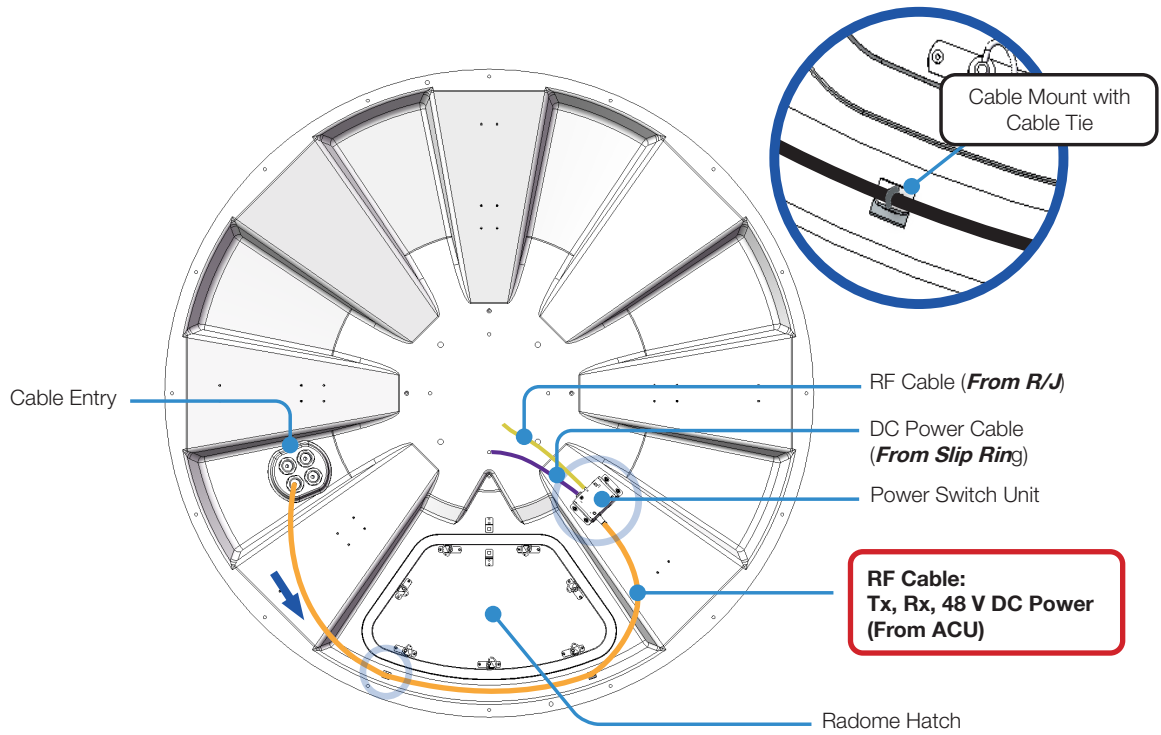

Figure 15: Cable Connection Inside Radome
4. Terminate the RF cables with N (M) connectors inside the radome. Intellian recommends using genuine cable connectors and tools. Refer to the cable termination instructions provided by the connector manufacturers.
5. Connect the RF cable to the power switch unit inside the radome (see figures 15 and 16).